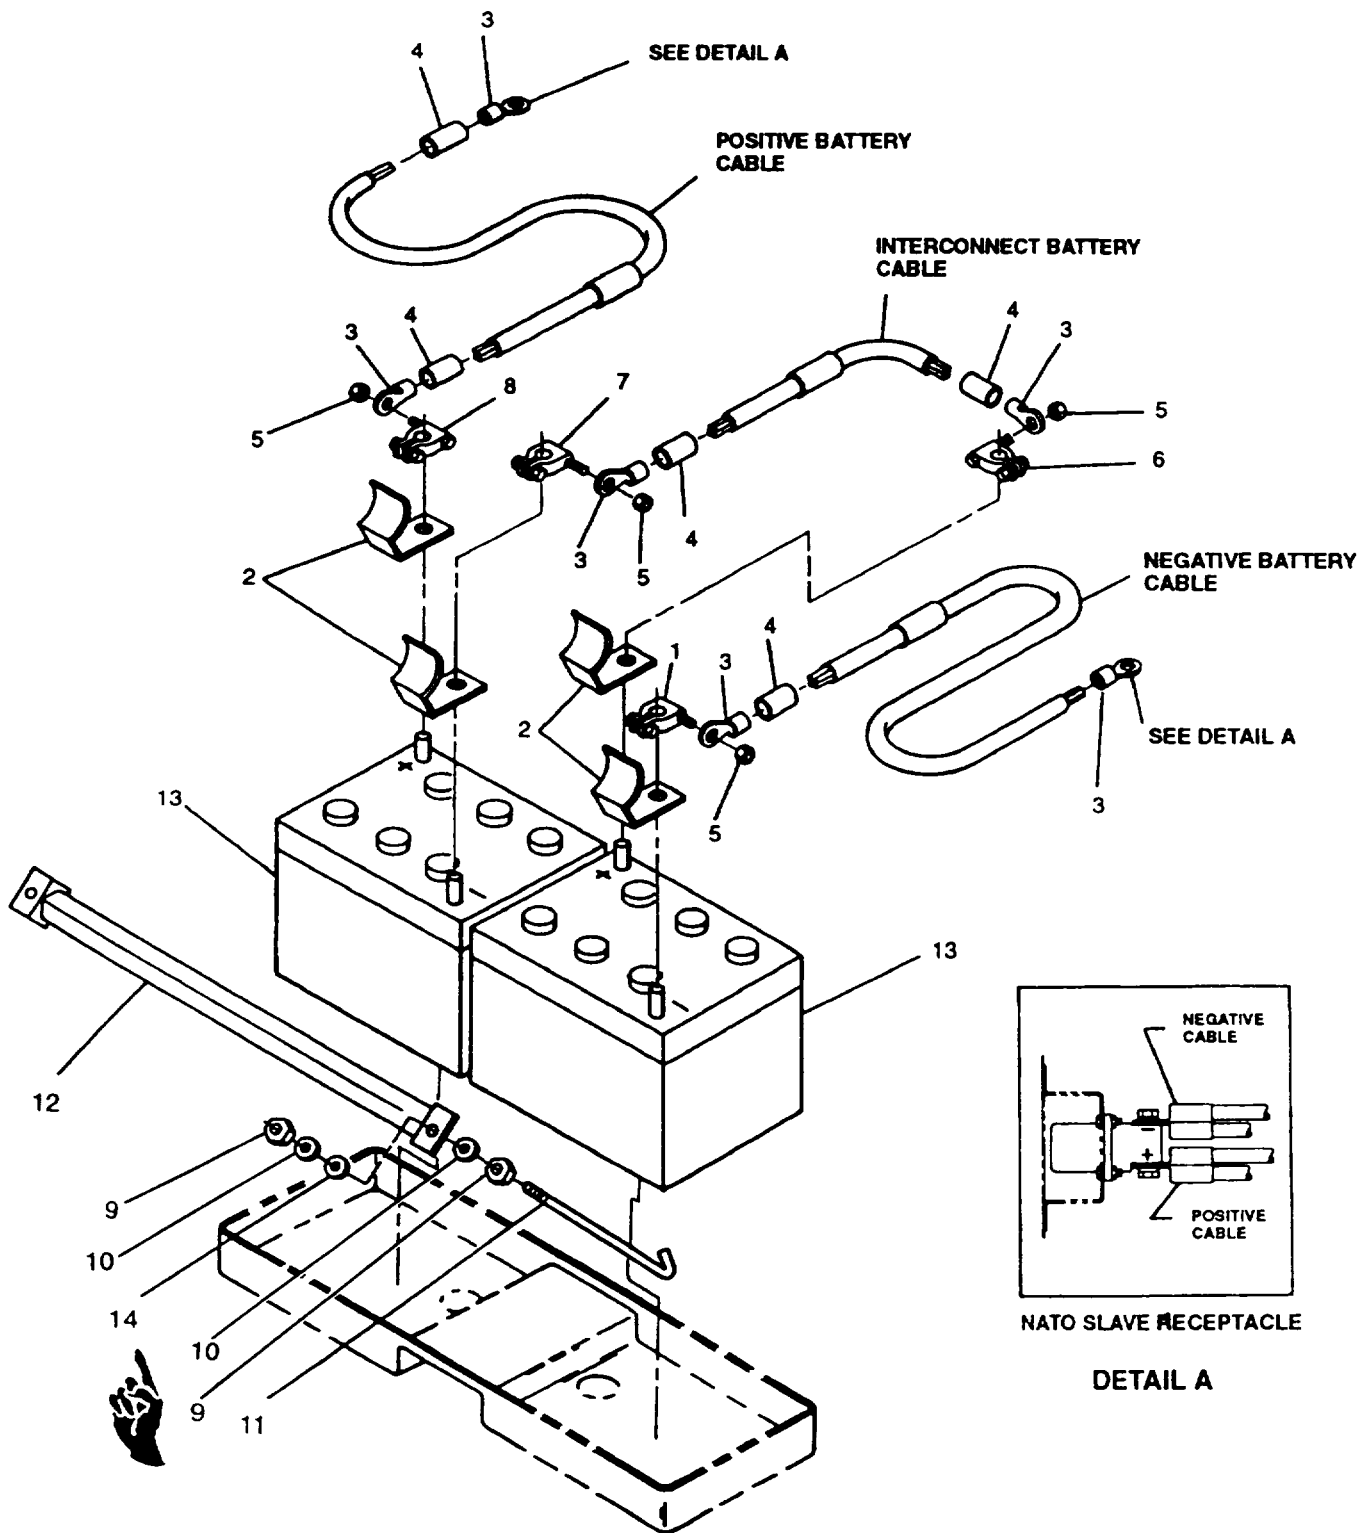

FIGURE 2-3. Batteries and Cables
- c. Disconnect negative battery cable terminal lug (1, FIGURE 2-3) from battery.
- d. Disconnect and remove applicable cable assembly as shown in FIGURE 2-3 or FIGURE 2-4.
- a. Remove terminal cover(s) (2, FIGURE 2-3) from battery post(s), if applicable.
- c. Install terminal cover(s) (2), if removed.
- a. Remove nut(s) (5, FIGURE 2-3) and battery cable terminal lug(s), as necessary.
- b. Remove broken or damaged terminal (3, FIGURE 2-3 or FIGURE 2-4) from cable assembly.
- c. Slide new shrinkable tubing (4, FIGURE 2-3 or FIGURE 2-4) over cable end.
- d. Install terminal (3) to cable end as described in Appendix D.
- e. Heat shrinkable tubing (4) with heat gun until secure.
- f. Install battery cable terminal lug(s) with nut(s) (5, FIGURE 2-3), as necessary.
- a. Install applicable cable assembly as shown in FIGURE 2-3 or FIGURE 2-4.
- b. Connect negative battery cable terminal lug (1, FIGURE 2-3) to battery.
- c. Disconnect negative battery cable terminal lug (1, FIGURE 2-3).
- d. Disconnect interconnect battery cable terminal lugs (6) and (7) and remove interconnect battery cable assembly.
- e. Disconnect positive battery cable terminal lug (8).
- f. Remove nuts (9), washers (10), lockwashers (14), clamps (11), and retaining bar (12).
- g. Remove batteries (13).
- a. Remove terminal covers (2, FIGURE 2-3).
- c. Install terminal covers (2) on batteries (13).
- a. Position batteries (13, FIGURE 2-3) in generator set. Ensure that batteries are serviced and fully charged.
- b. Apply general purpose grease (Item 10, Appendix C) to battery posts and cable terminal lugs (1), (6), (7), and (8) (F) Apply petrolatum or equal.
- c. Install clamps (11) and retaining bar (12) with lockwashers (14), washers (10), and nuts (9).
**Connect negative battery cable terminal lug (1) last when installing battery cables